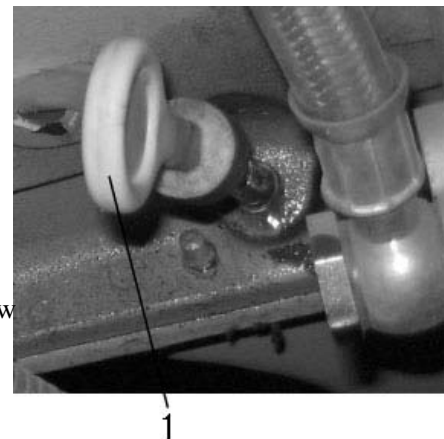

Figure 3-3
3.4.1.3 Check the engine oil level (figure 3-3)